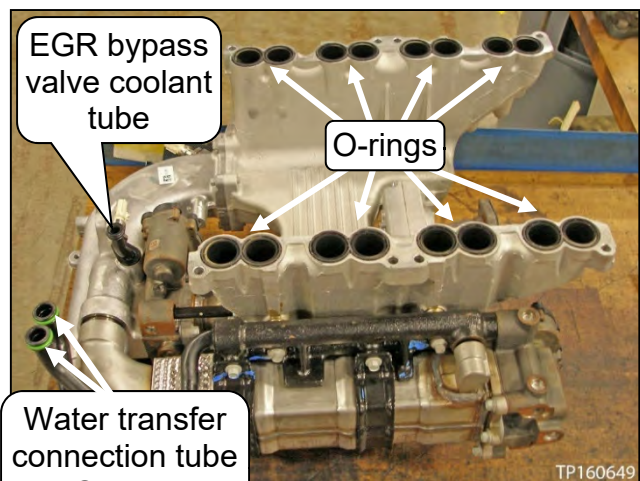

Figure 78
19. Fully insert the EGR bypass valve coolant tube to the intake manifold (see Figure 78).
20. Replace the two water transfer connection tube O-rings with new ones (see Figure 78).
21. Install all O-ring gaskets in the intake manifold (see Figure 78).